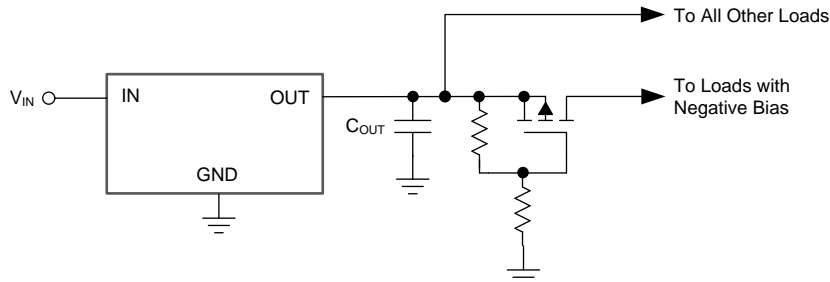

Figure 56. PMOSFET to Isolate the Output from the Load
- Use a PMOSFET to isolate the output of the device from the load causing the negative bias when the device is off, as shown in Figure 56.